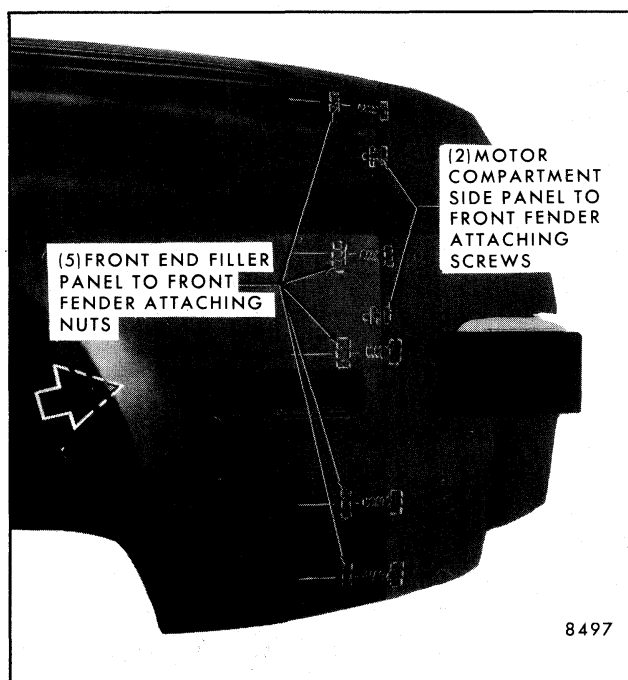

Fig. 4-27-Front of Front Fender Attachments
3. Working between front inner wheelhouse and front fender (at front), remove five front end filler panel to front fender attaching nuts (Fig. 4-27).